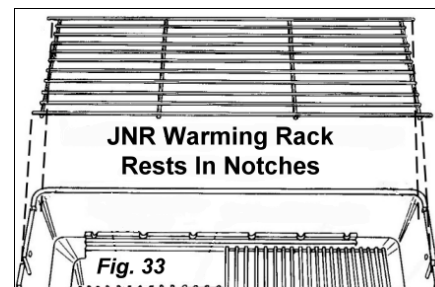

Fig. 33
1. The JNR Warming Rack rests in the notches on the top edge of the grill head bottom. (Fig. 33)